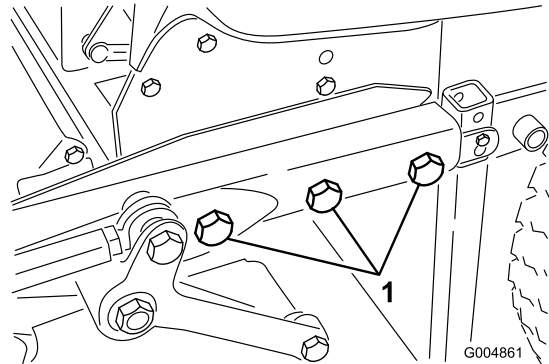

Figure 86
31. Roll the summer deck and frame into position and install the five 3/4" bolts, washers and nuts that connect the deck frame to the rear frame (Figure 86). Remove the lift cylinder pins and rear drive tires (if required) to gain access to the bolts on the right hand side. Torque the bolts to 265 foot pounds.